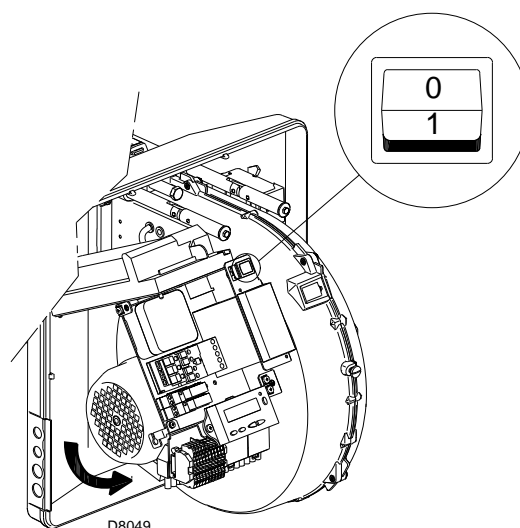

Fig. 29
Close the thermostats/pressure switches and turn the switch of Fig. 29 to position "1".
As soon as the burner starts up, go in front of the cooling fan of the fan motor and check it is rotating anticlockwise. See Fig. 29.
- place the switch of Fig. 29 in position "0" and wait for the control box to carry out the switch-off phase;
The burner is in the heat request waiting mode, or the selector "0-1" (Fig. 29 at page 31) is in the "0" position.